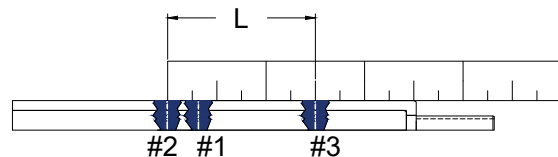

Figure 12: Setting length scribe
4. From the seal face location, measure back along the shaft to the specified setting length (L) and scribe a third line (Scribe #3, Figure 12).